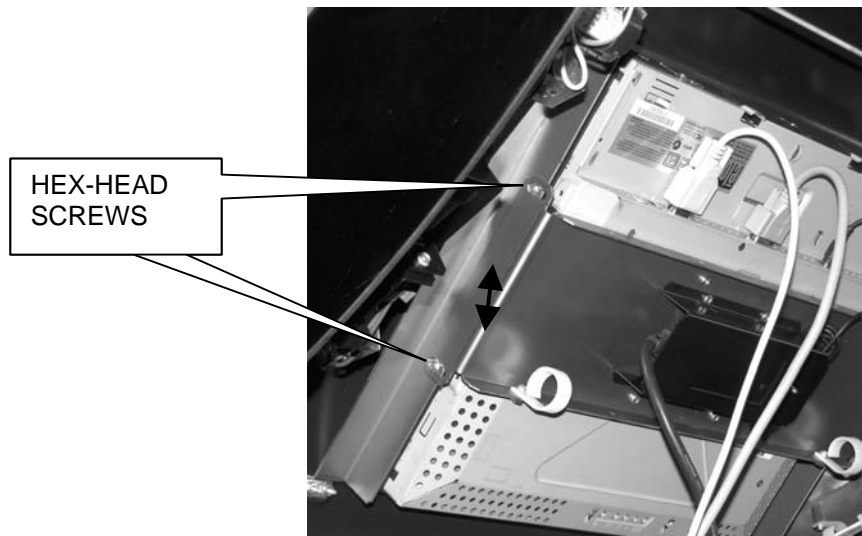

Figure 20 - Location for Monitor Screws
8. If necessary, the monitor can be adjusted in or out on its bracket by loosening the four Hex-head screws (two per side) refer to *Figure 20*. While ensuring the monitor is contacting the Front Shroud, tighten the four screws.